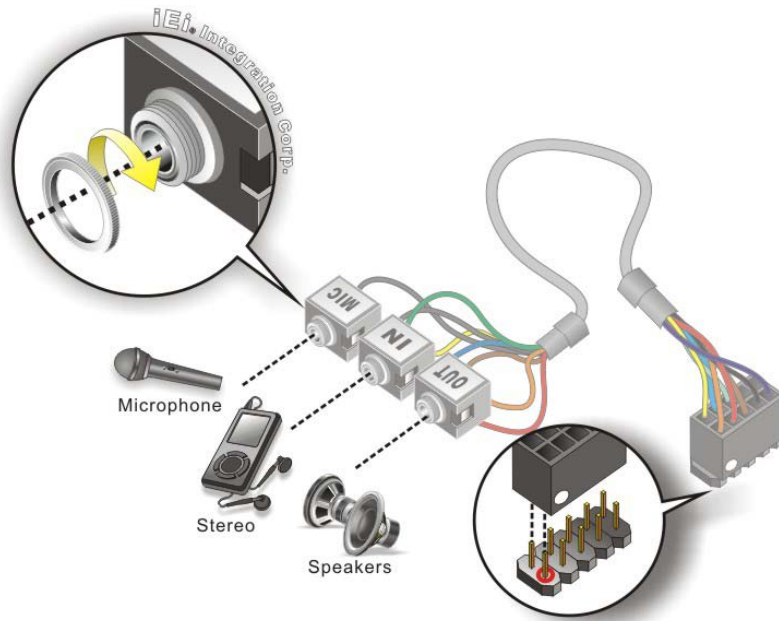

Figure 4-6: Audio Kit Cable Connection
Step 2: Align pin 1. Align pin 1 on the on-board connector with pin 1 on the audio kit connector. Pin 1 on the audio kit connector is indicated with a white dot. See **Figure 4-6**.